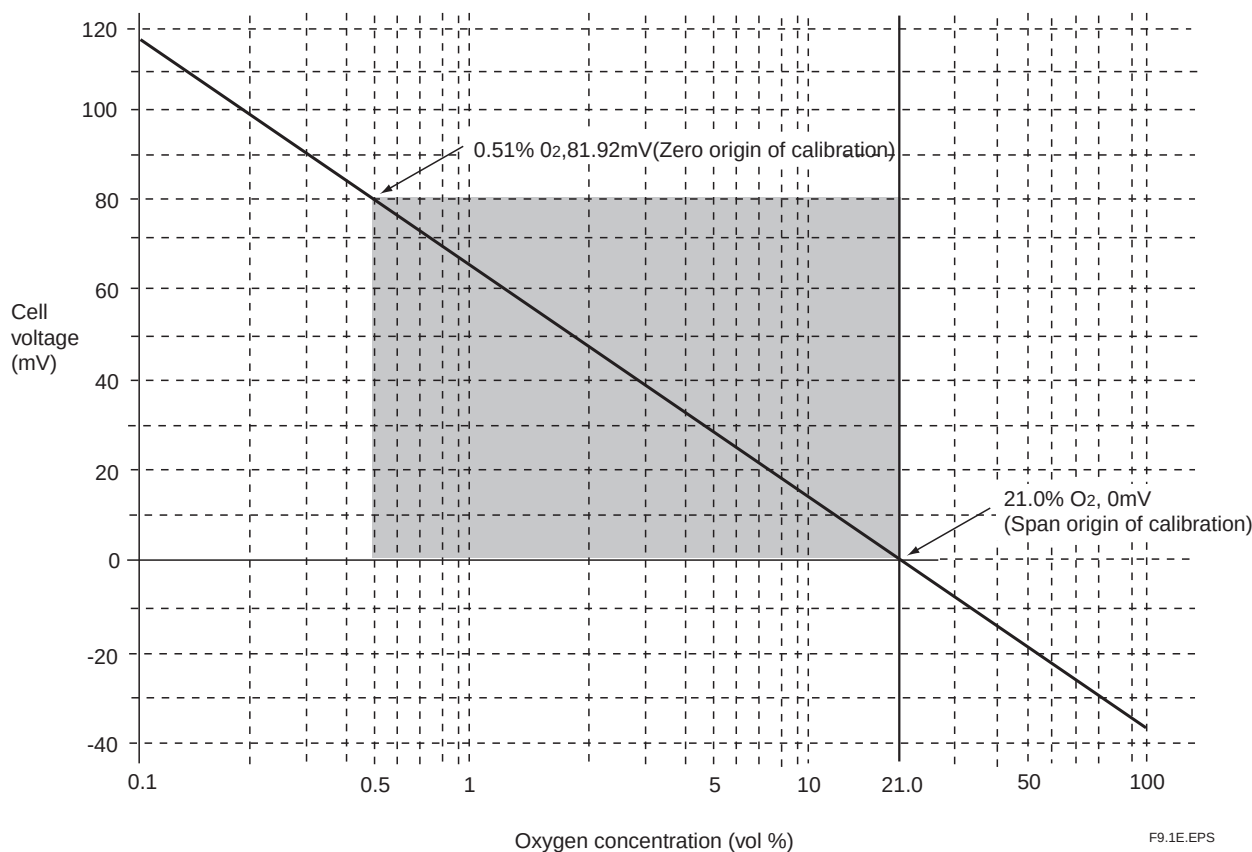

Figure 9.1 Oxygen concentration in a Measurement Gas vs Cell Voltage (21% O₂ Equivalent)
With this analyzer, the sensor (zirconia element) is heated up to 750°C, so Equation (2) is valid. At that point, the relationship as in Figure 9.1 is effected between the oxygen concentration of the measurement gas in contact with the positive electrode and the electromotive force of the sensor (= cell), where a comparison gas of air is used on the negative electrode side.